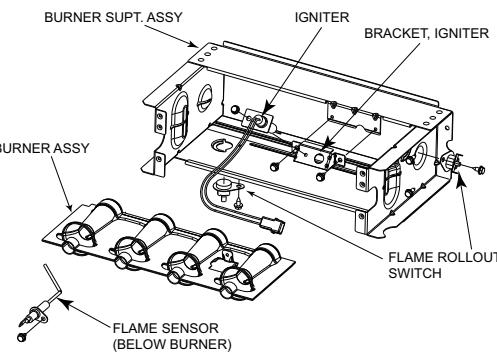
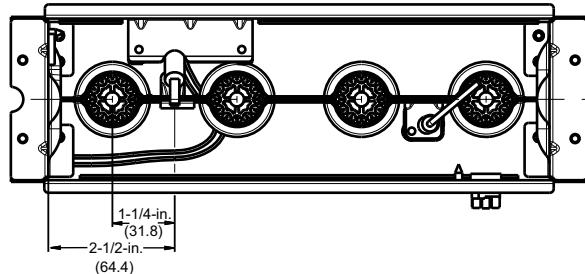
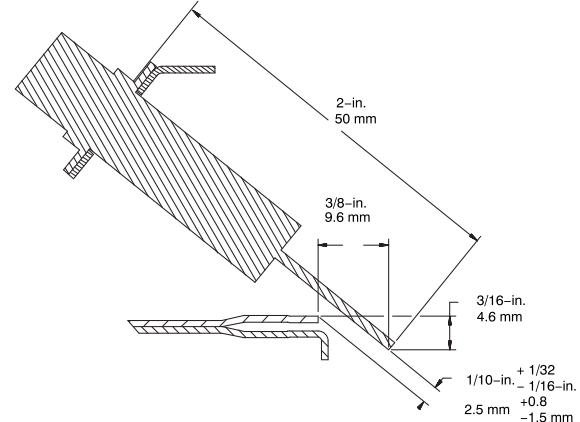

Fig. 67 – Burner Assembly
Fig. 68 – Igniter Position - Top View
Fig. 69 – Igniter Position - Side View
Refer to Fig. 67.
8. Check the igniter alignment. See Fig. 68, Fig. 69 and Fig. 67.
The igniter does **NOT** require annual inspection. Check igniter resistance before removal. Refer to Fig. 68, Fig. 69 and Fig. 67.
- a. Using a 1/4-in. driver, remove the two screws securing the igniter mounting bracket to the burner assembly See Fig. 67.
6. To replace igniter and bracket assembly, reverse items 5a through 5d.
7. Reconnect igniter harness to the igniter, dressing the igniter wires to ensure there is no tension on the igniter itself. See Fig. 67.